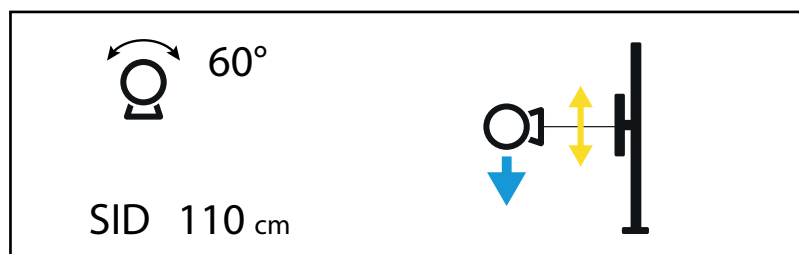

Fig. 3-12 Auto tracking, wallstand
2. The *Auto Tracking, Wallstand* icon is shown on the OTC display, see **Fig. 3-12**.